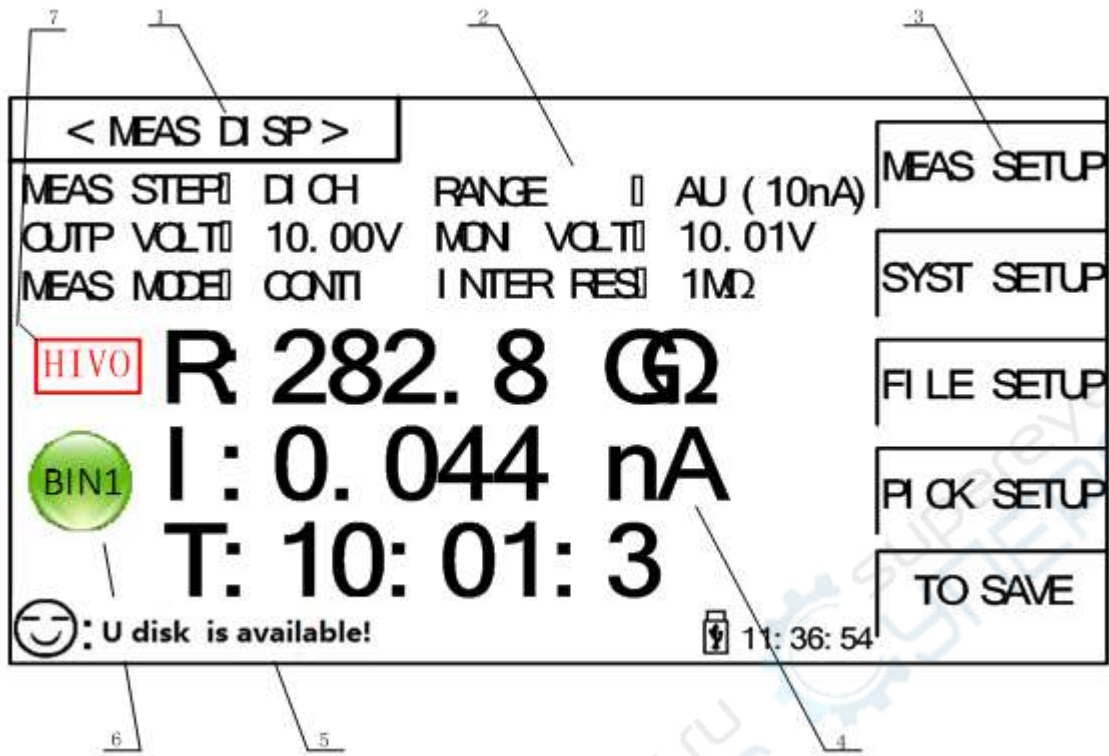

Figure 2-5 TH2683A Main Display
- Use [MEAS], [SYSTEM] or [FILE] or soft keys to enter into the page required to enter. (Refer to figure 2-5)